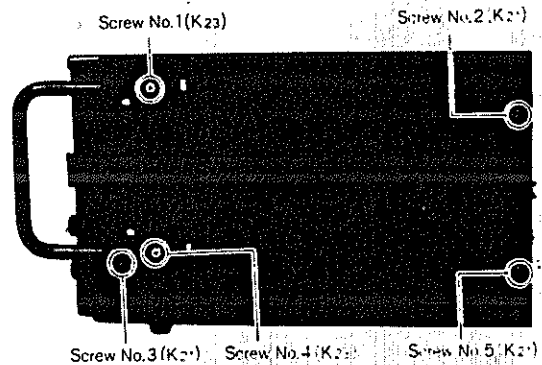

Fig. 2
2. Remove the five (5) screws (nos. 1~5) for the handle and cabinet cover, as shown in fig. 2.